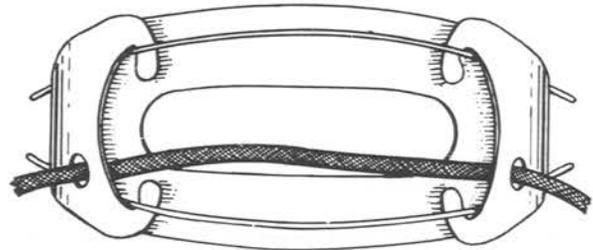

Fig. 4 - Top View of Headband With Headband Pad in Position
3.15 To remove a headband pad from the headset, remove the receiver at the terminating end of the headset cord from the headband. Loosen the cord terminal screws in the receiver case with the KS-6854 screwdriver and remove the cord terminals from the binding posts. Open the loop of the tie cord screw eye with the P-long-nose pliers and slip the tie cord from the screw eye. Remove the headset cord from the headband pad and remove the headband pad from the wires of the headband. Bend the end portions of a new headband pad back over the slotted central portion. If the pad does not bend easily, moisten the narrow portions on both sides of the pad. Allow 15 minutes for the water to soak in before bending the pad. Slide the headset cord through the holes in the end flaps. Then position the pad on the headband as shown in Fig. 4. Close the loop of the tie cord screw eye, taking care